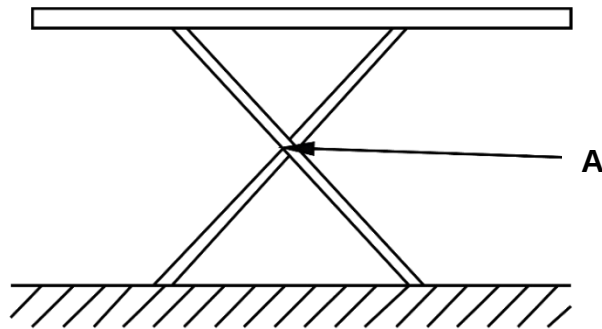

Fig. 5
- 8 Figure 5 shows an ironing board used in the consumer science department.